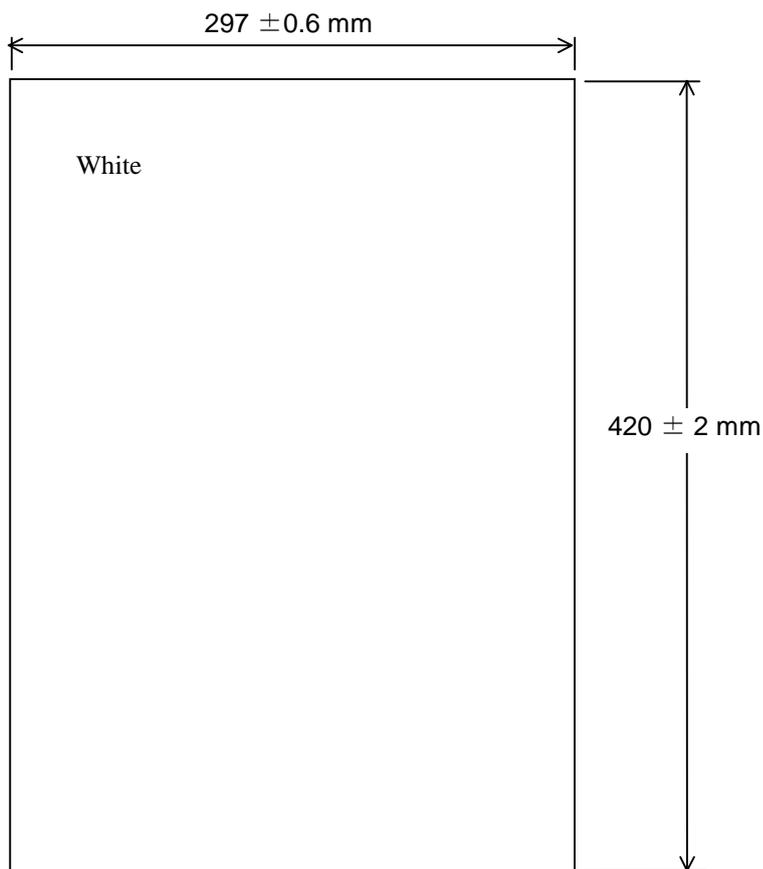

Figure 7.1.3 Magnification / Offset Adjustment Test Sheet
Before this adjustment, obtain the Test sheet described in the figure 7.1.3. This is an A3 size sheet of paper.
- (2) Change the selection by pressing the **Function** ( $\Delta$  or  $\nabla$ ) button.
- (3) When adjusting the ADF, set a white A3 size sheet (Figure 7.1.3) on the ADF paper chute in Portrait orientation, and adjust the sheet guide to the width of the sheet.
For the FB adjustment, set a white A3 size sheet (Figure 7.1.3) aligning its corner to the corner of the Document bed (refer to section 3.1.4), and leave the Document cover open. In case the optional black document pad is attached, close the Document cover.
- Before this adjustment, obtain the Test sheet described in the figure 7.1.3. This is an A3 size sheet of paper.